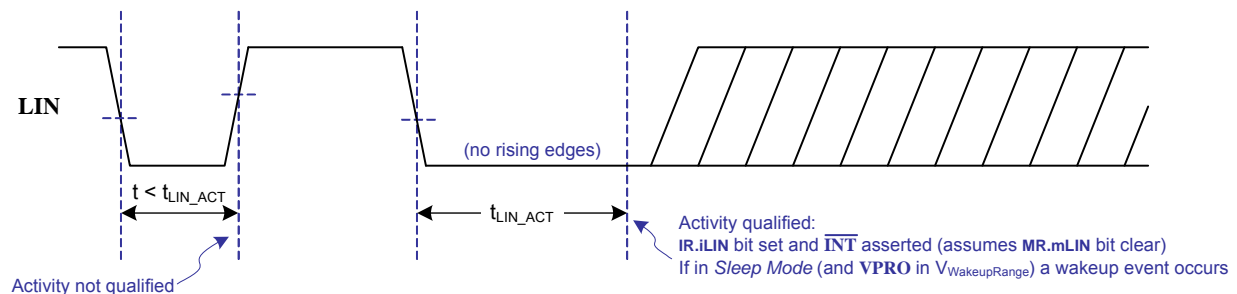

Figure 5-2: LIN Activity Qualification
If the LIN pin override bit (**OR.oLIN** in the *Override Register* (OR)) was previously set to ignore a stuck LIN pin, then any transition from qualified activity to qualified inactivity, or vice versa (i.e. any change of **LSR.LIN**), clears the **OR.oLIN** bit. In a normal operating environment, qualified LIN activity (LIN pin low, or dominant) keeps the MPM85000 in *Active Mode*. If the EHC determines that the LIN pin is stuck low for any reason (e.g. short to ground), then the EHC can set **OR.oLIN** which allows the MPM85000 to revert to *Sleep Mode* when the EHC chooses. If, while in *Sleep Mode*, the LIN pin gets unstuck, then any transitions automatically clear **OR.oLIN** thereby allowing the MPM85000 to wakeup again from LIN activity. Figure 5-2 below illustrates the LIN activity qualification process.